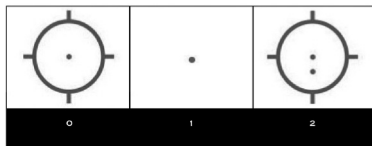

Fig. 1 XPS2 reticle options
The XPS2 is offered with one of the following (3) reticle options (see fig. 1):
- 2- 65 minute ring with vertical and horizontal stadia and (2) 1 MOA aiming dots